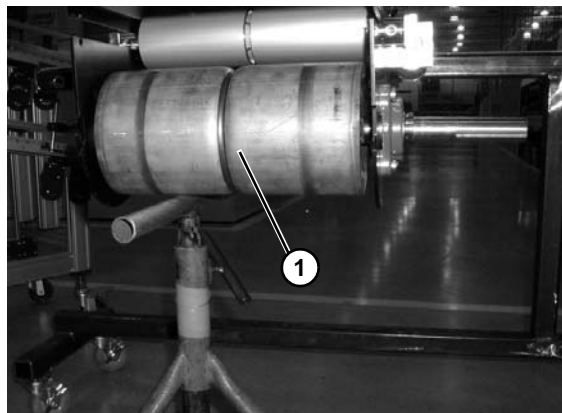

Figure 120
8. Temporarily support the drive pulley (Figure 120, item 1).